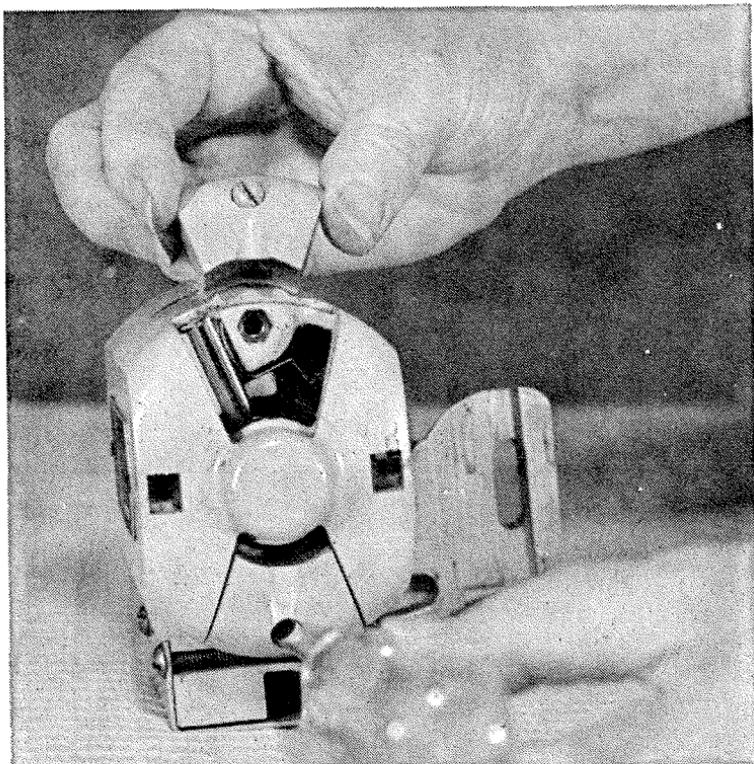

Fig. 2-12. The motor brushes on the Singer Model 319W motor are made accessible by removing covers on the end of the motor opposite the pulley.
- On some motors, the brushes will be found by removing small covers (two in all) at the end of the motor housing (Fig. 2-12). They are generally found opposite the pulley end of the motor.